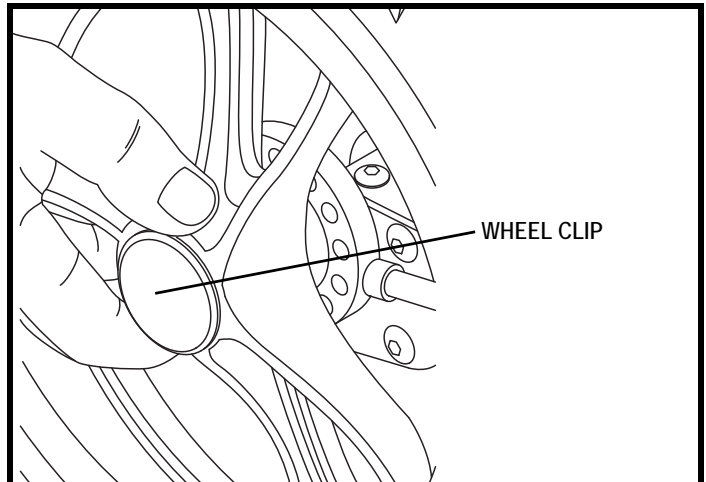

Figure 20. Kids FAST Rear Wheel
3. Press the clip on the wheel and slide the wheel onto the axle. Release the clip. **See figure 20.**